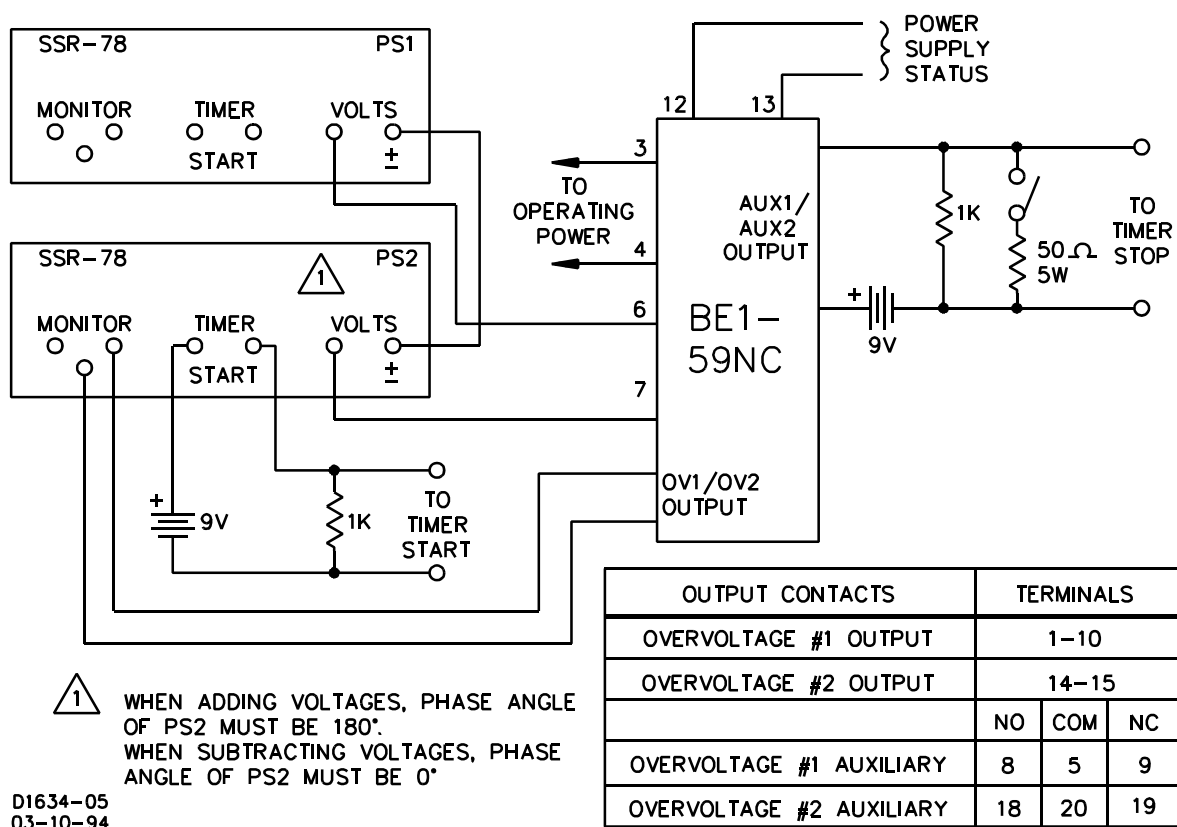

Figure 5-2. Typical Test Setup Timing Options D1 Or D2
- Step 1. Perform the appropriate test setup for your relay. Use Figure 5-1 for timing option E2 and Figure 5-2 for timing options D1 or D2. On D1, setpoint one is inverse time and setpoint two is definite time.
- Step 1. With reference to Figure 5-2, set PS1 for the value shown in Table 5-1, input option (column 1) and for the specific pickup voltage (column 2, **Volts Pickup 50/60 Hz**). **Example:** input option 1, PS1 set to 10 volts, at 0°.
- Step 13. With reference to Figure 5-2, set PS1 for the value shown in Table 5-1 and for the specific input option.